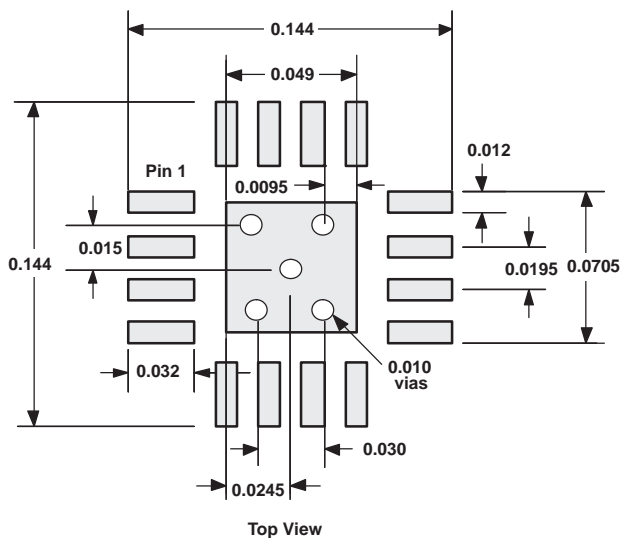

Figure 94. QFN Etch and Via Pattern
9. The THS4509-Q1 recommended PCB footprint is shown in Figure 94.